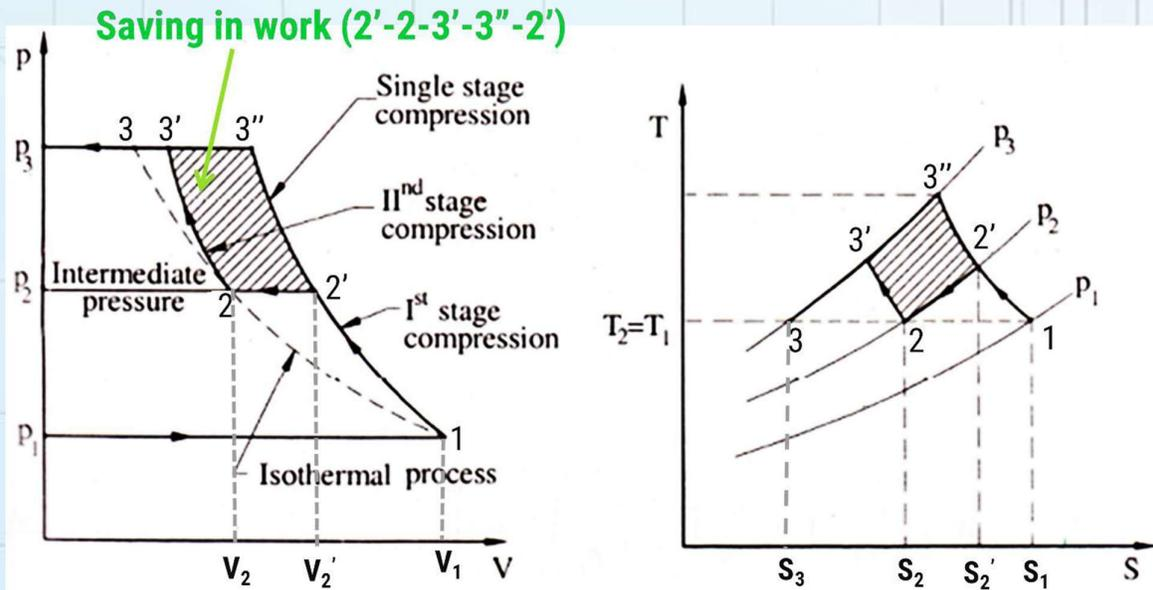

Fig.7.6 – P-V and T-S diagram with complete intercooling of air
- ▶ If the temperature of air leaving the intercooler T_2 is equal to the original atmospheric air temperature T_1 , then the intercooling is called complete or perfect and in this case point 2 lies on isothermal curves shown in Fig. 7.6.